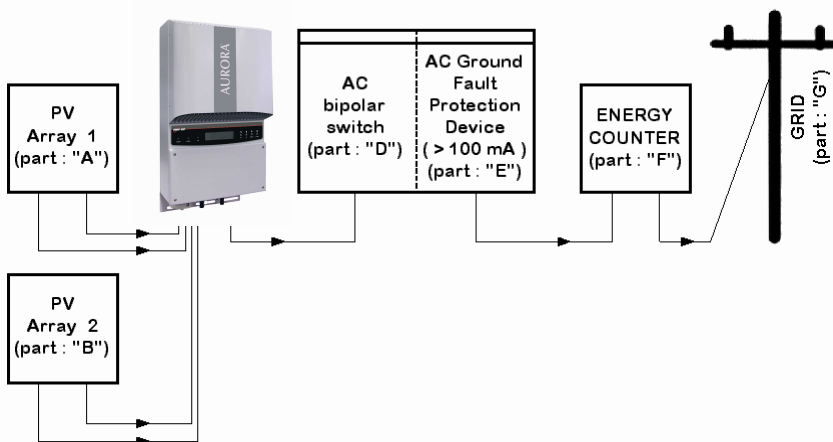

Fig. 8 - Electrical connection diagram
STEP 1 If the inverter is connected to the power supply grid, disconnect it by opening the switch indicated as Part. "D" in Fig. 8
Step 1: Disconnect the inverter from the AC grid by turning off the AC switch, "part D" in Fig. 8. Also turn off the DC part by using the DC switch (integrated in -S models or external).